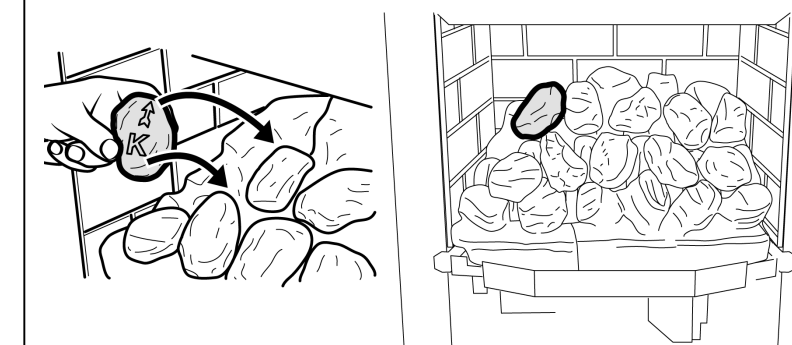

Figure 16. Third row "Coal K"
2. Hold coal 'K' upright with the arrow pointing to the top. Locate coal 'K' as shown in figure 16